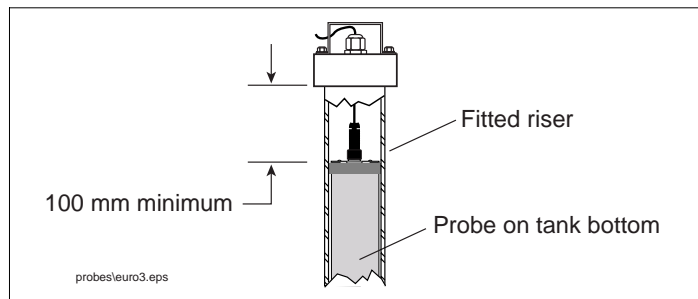

Figure 5. Minimum clearance above probe canister
- 3-inch risers, when fitted, should be a minimum of 100 mm above the probe canister (see Figure 5).